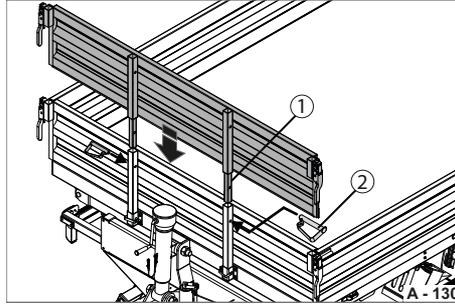

Fig. 136 Installing front platform gate attachment
- ▶ Insert the spring cotter stud (Fig. 136/2) through the bore holes in the posts.